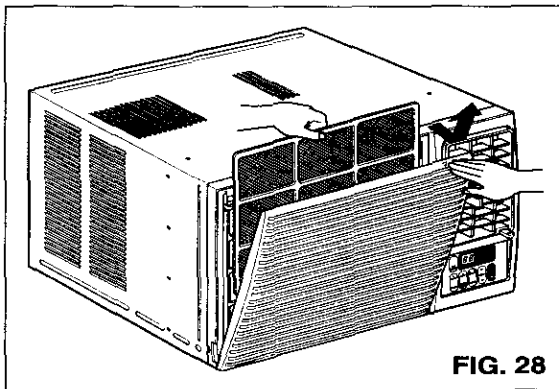

FIG. 28
- Pull the inlet grille forward, grasping both tabs, and pull out the air filter. (FIG. 28)